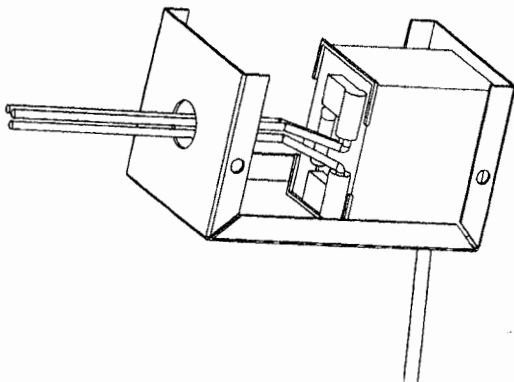

Figure 4
13. First place wires through housing, then connect capacitor wires to the capacitor as illustrated. The capacitor is non-polarized, therefore wiring is not critical. (see Figure 4)